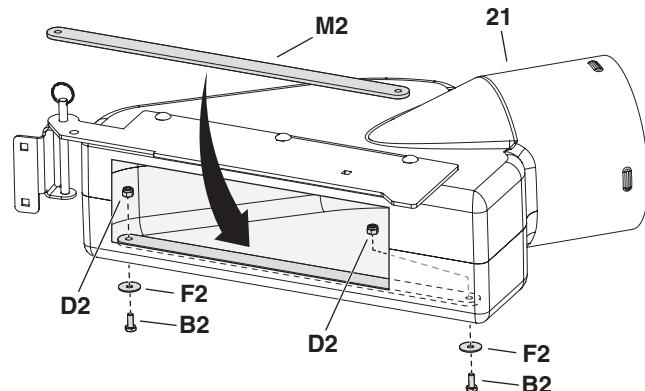

FIGURE 31
- Place adapter strap (M2) inside deck adapter (21) as shown. Mark and drill holes. Attach using two 1 1/4" x 5/8" bolts (B2), 1" washers (F2), and 1/4" nylock nuts (D2). See figure 31.